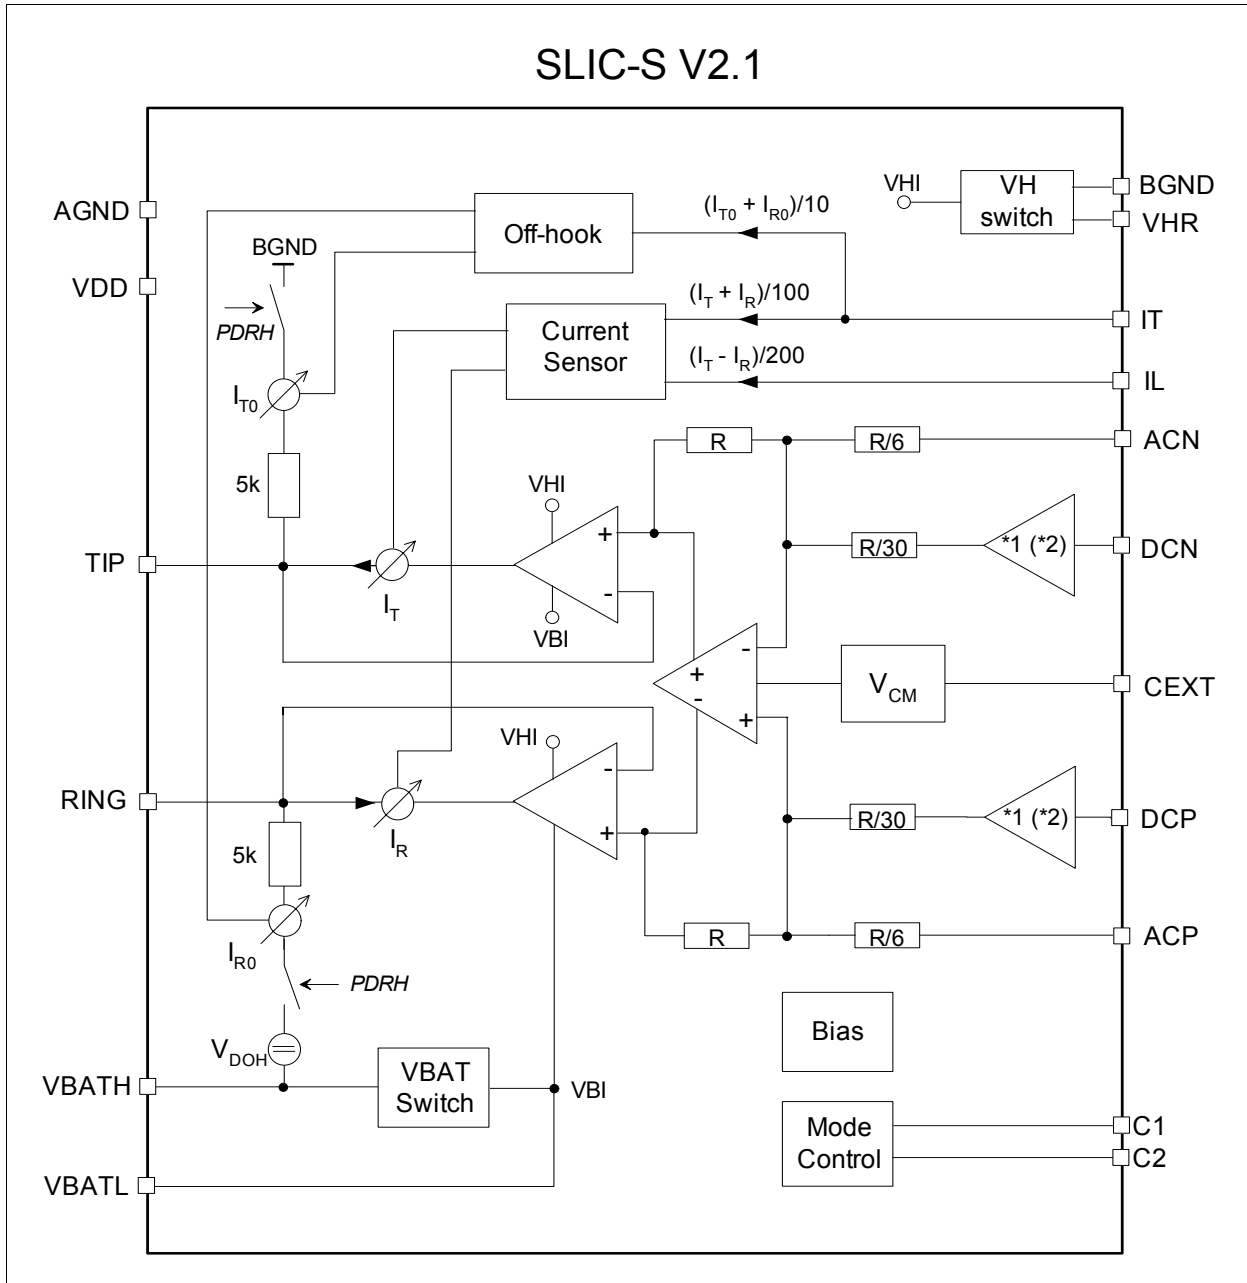

Figure 6 Block Diagram
A functional block diagram is shown in **Figure 6**.
Power consumption is reduced to a minimum by switching completely off all voice transmission functions. To allow off-hook detection, PDRH provides a connection of 5 k Ω each from TIP to BGND and RING to VBATH, respectively, while the output buffers show high impedance (see Figure 6). The current through these resistors is sensed, scaled by 1/5 and transferred to the IT pin for off-hook supervision.
3) Due to the changed battery switch concept (see Figure 6), the VBATL series diode must not be shared between different channels; one diode per channel is mandatory (also for applications with TSLIC-S).